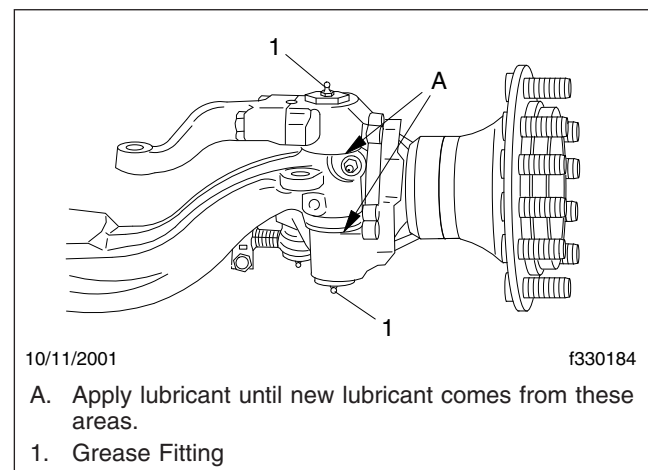

Fig. 4, Sealed, Easy Steer Plus Kingpin Lubrication
4. Using a multipurpose grease, NLGI grade 1 or 2, lubricate the kingpins through the grease fittings on the top and bottom of the knuckle. See Fig. 4.
5. Force lubricant into the upper and lower kingpin grease fitting caps until new lubricant flows from between the upper axle beam end and the knuckle, and between the lower axle beam end and the knuckle. See **Fig. 4**.